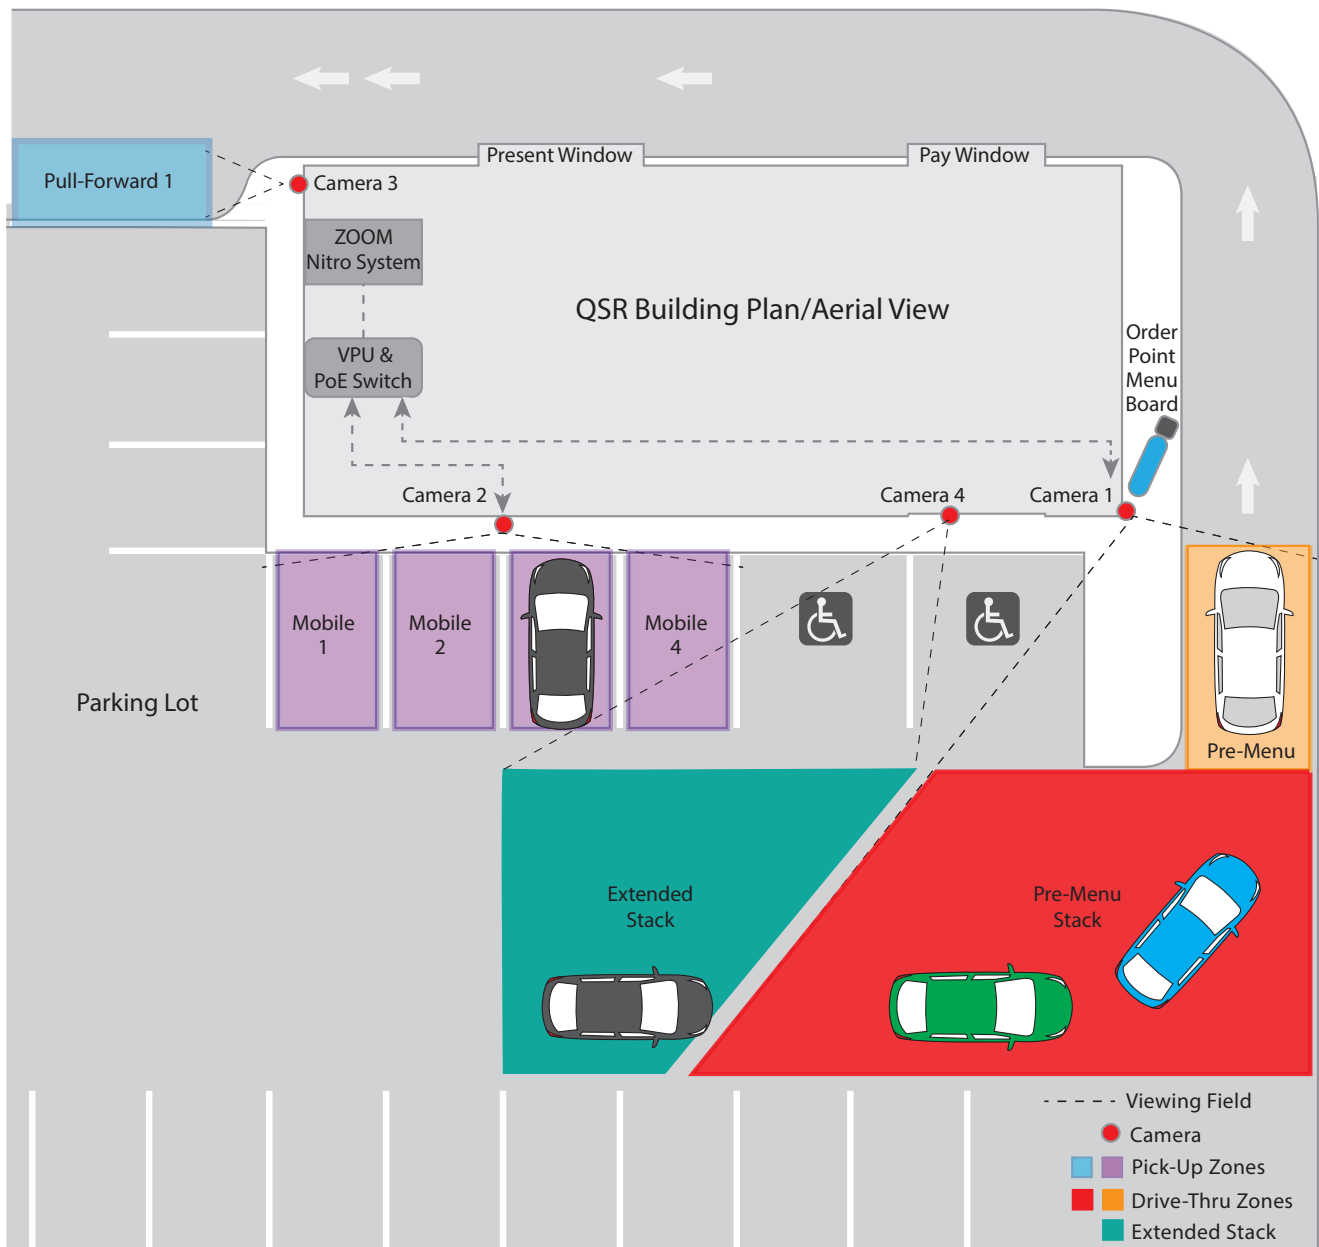

Fig. 1
Cameras are used to detect and track vehicles in a drive-thru or in a mobile space. Fig 1 shows an example of multiple possible locations.
Extended Stack: (The teal area in Fig. 1.) This is an area behind the pre-menu stack that extends it.
Pre-Menu Stack: (The red area in Fig. 1.) This is an area behind the pre-menu where customers can potentially exit the lane and drive off if they decide not to wait.
Pre-Menu: (The orange area in Fig. 1.) This is the area where a single car next in line is waiting just before reaching the order point.
Captured lanes: These lanes have a physical boundary along the lane, which prevents cars from pulling out of the lane and driving off. These boundaries can be curbs, walls, railings, or hedging. (Fig. 1 has curbs). Captured lanes are also narrow enough so that a car cannot overtake the car in front of it. The only way a car can escape a captured lane is by reversing out of it.
The Blue and Purple areas in Fig. 1. Camera's should be installed to see as many mobile or pull-forward spaces as possible, up to four mobile spaces per camera (eight maximum with two cameras) or up to two full-forward spaces (two maximum) or a combination of both. Cameras should be positioned to view the front or back of these pick-up zones since side views can be problematic due to obstruction issues. For example, a large (tall) vehicle might block the camera's view of a detection zone if the zone is at a distance from the camera with other available parking spaces in between.
- If cars turn as they move first through the Pre-Menu Stack and into the Pre-Menu zone (as in Fig. 1), it is best if the camera is positioned to see cars from the side and from the front.